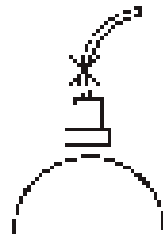

Fig. 2
- Carbon brush connection cable is broken (Fig. 2)